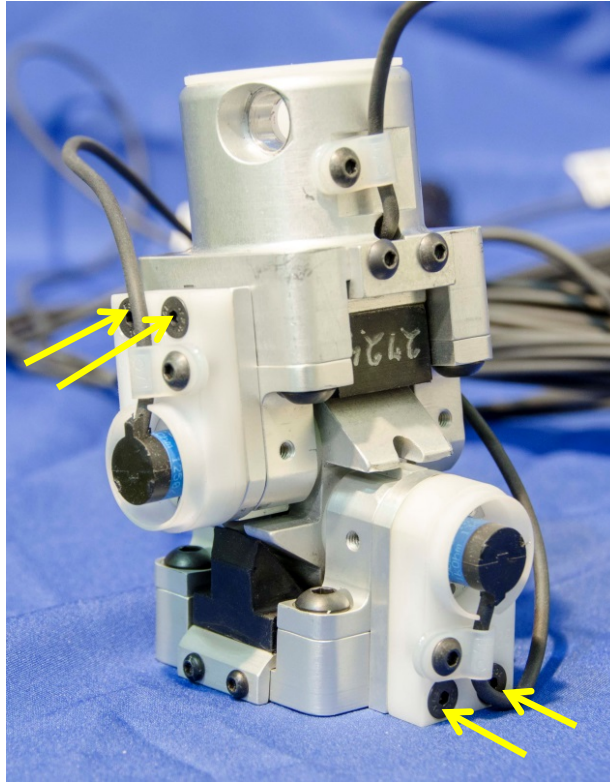

Figure 12-45. Install potentiometer retainers
- 12.2.2.28 Install Potentiometer Retainers (472-7585) on the front and right sides of the ankle using two M4 x 0.7 x 20 FHCS per installation (Figure 12-45). Nylon Loop Clamps are also installed using M4 x 0.7 x 8 BHCS (9003049) to provide strain relief for the potentiometer wires.